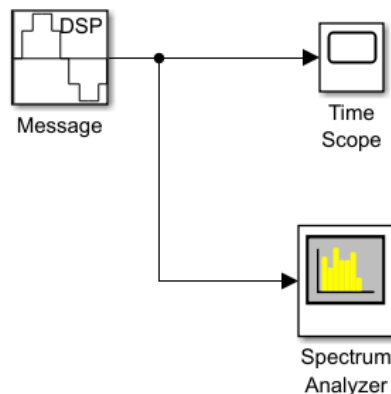

Figure 21: Message signal with time scope & spectrum analyzer
2. Close out of Model Explorer. In the main Simulink model, add the following blocks to your model as shown in Figure 21: